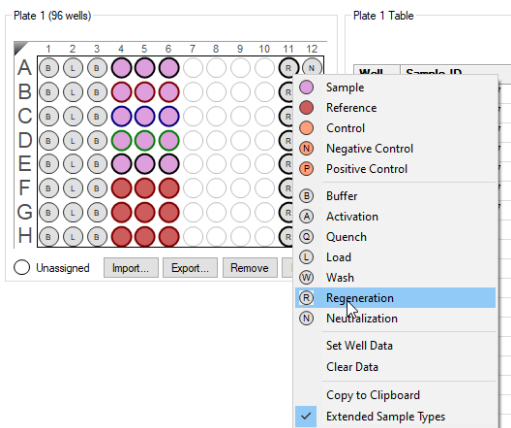

Figure 8-33: Regeneration Step
1. In the **Sample Plate Map**, assign wells as **Regeneration** or **Neutralization** (Figure 8-33).